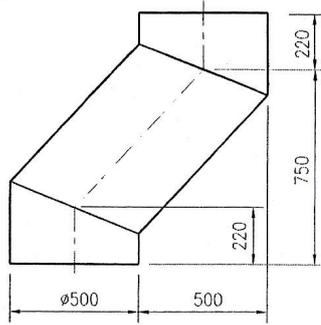

FIG. 2
2. An offset formed in sections is shown in Fig.2. Develop the full template for the centre section